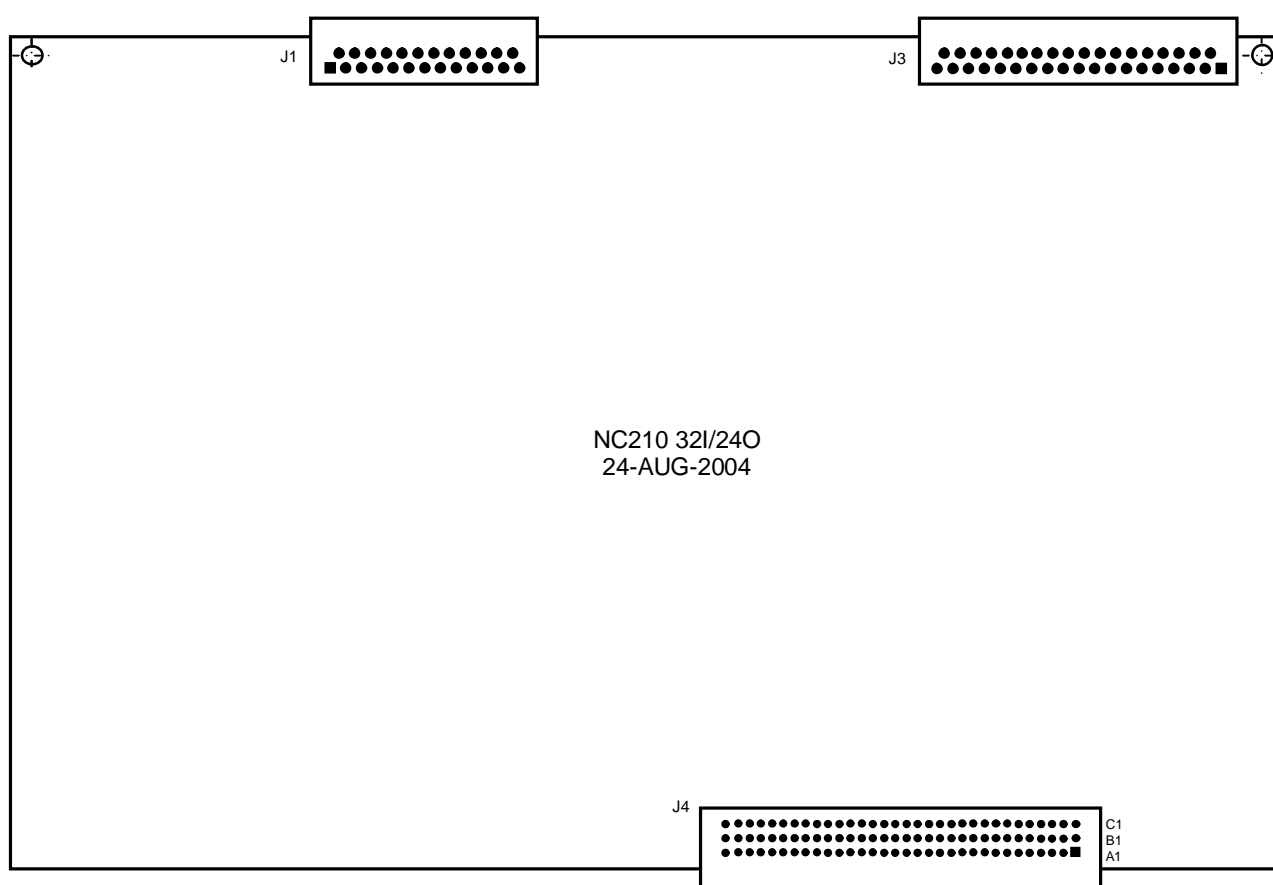

Figure A.6 – Positions of the NC210-31 Connectors
11.2.1.1 The positioning of connectors of the **I/O** module NC210-31 and their designations are shown in Figure A.6